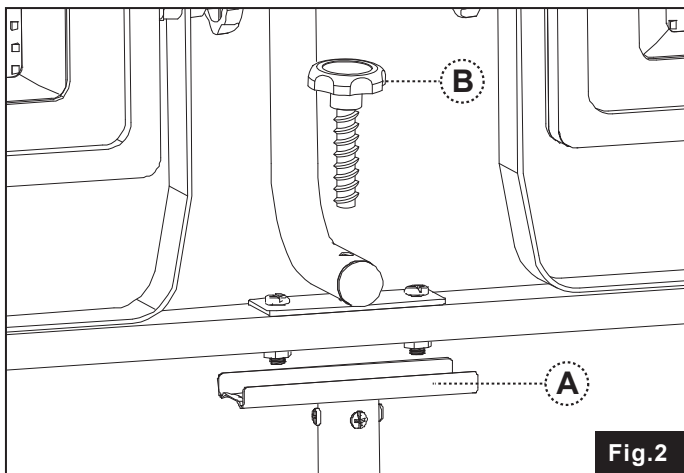

Fig. 2
STEP 2. MOUNTING THE LED LIGHT TO THE TRIPOD (Fig. 2)